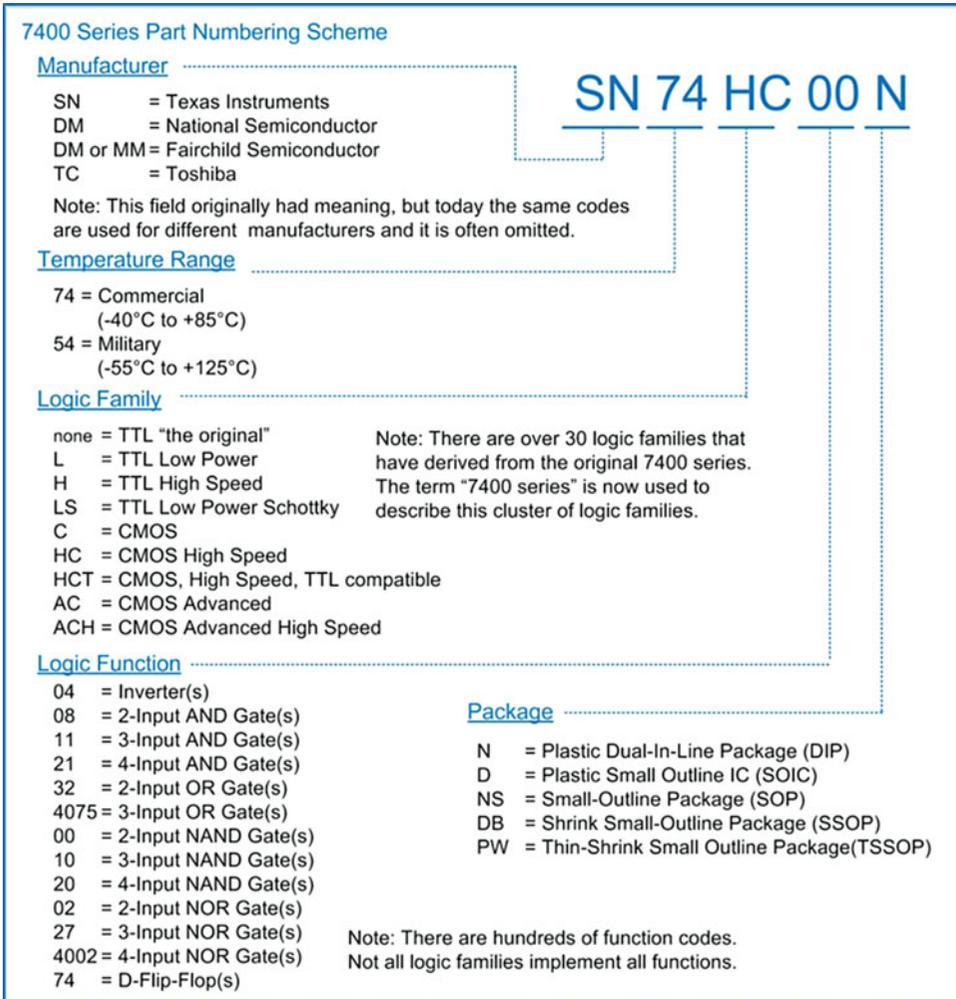

Fig. 3.32
The part-numbering scheme for the 7400 series and its derivatives contains five different fields: (1) manufacturer, (2) temperature range, (3) logic family, (4) logic function, and (5) package type. The breakdown of these fields is shown in Fig. 3.32.